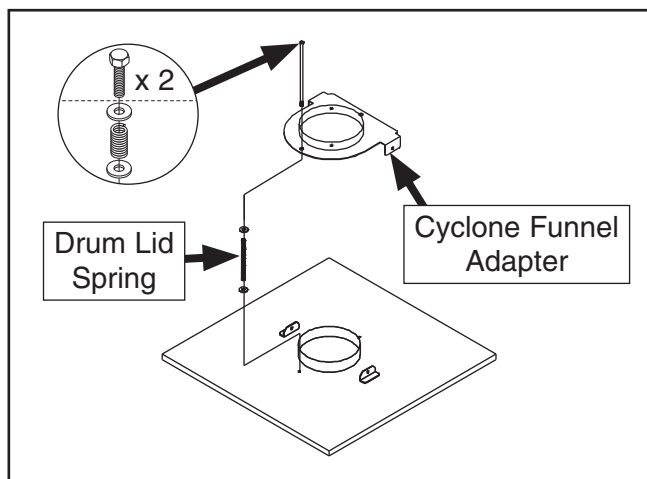

Figure 36. Installing cyclone funnel adapter.
49. Position cyclone funnel adapter and drum lid together with (2) $\frac{3}{8}$ "-16 x 11" hex bolts, (2) drum lid springs, and (4) $\frac{3}{8}$ " flat washers, as shown in **Figure 36**.